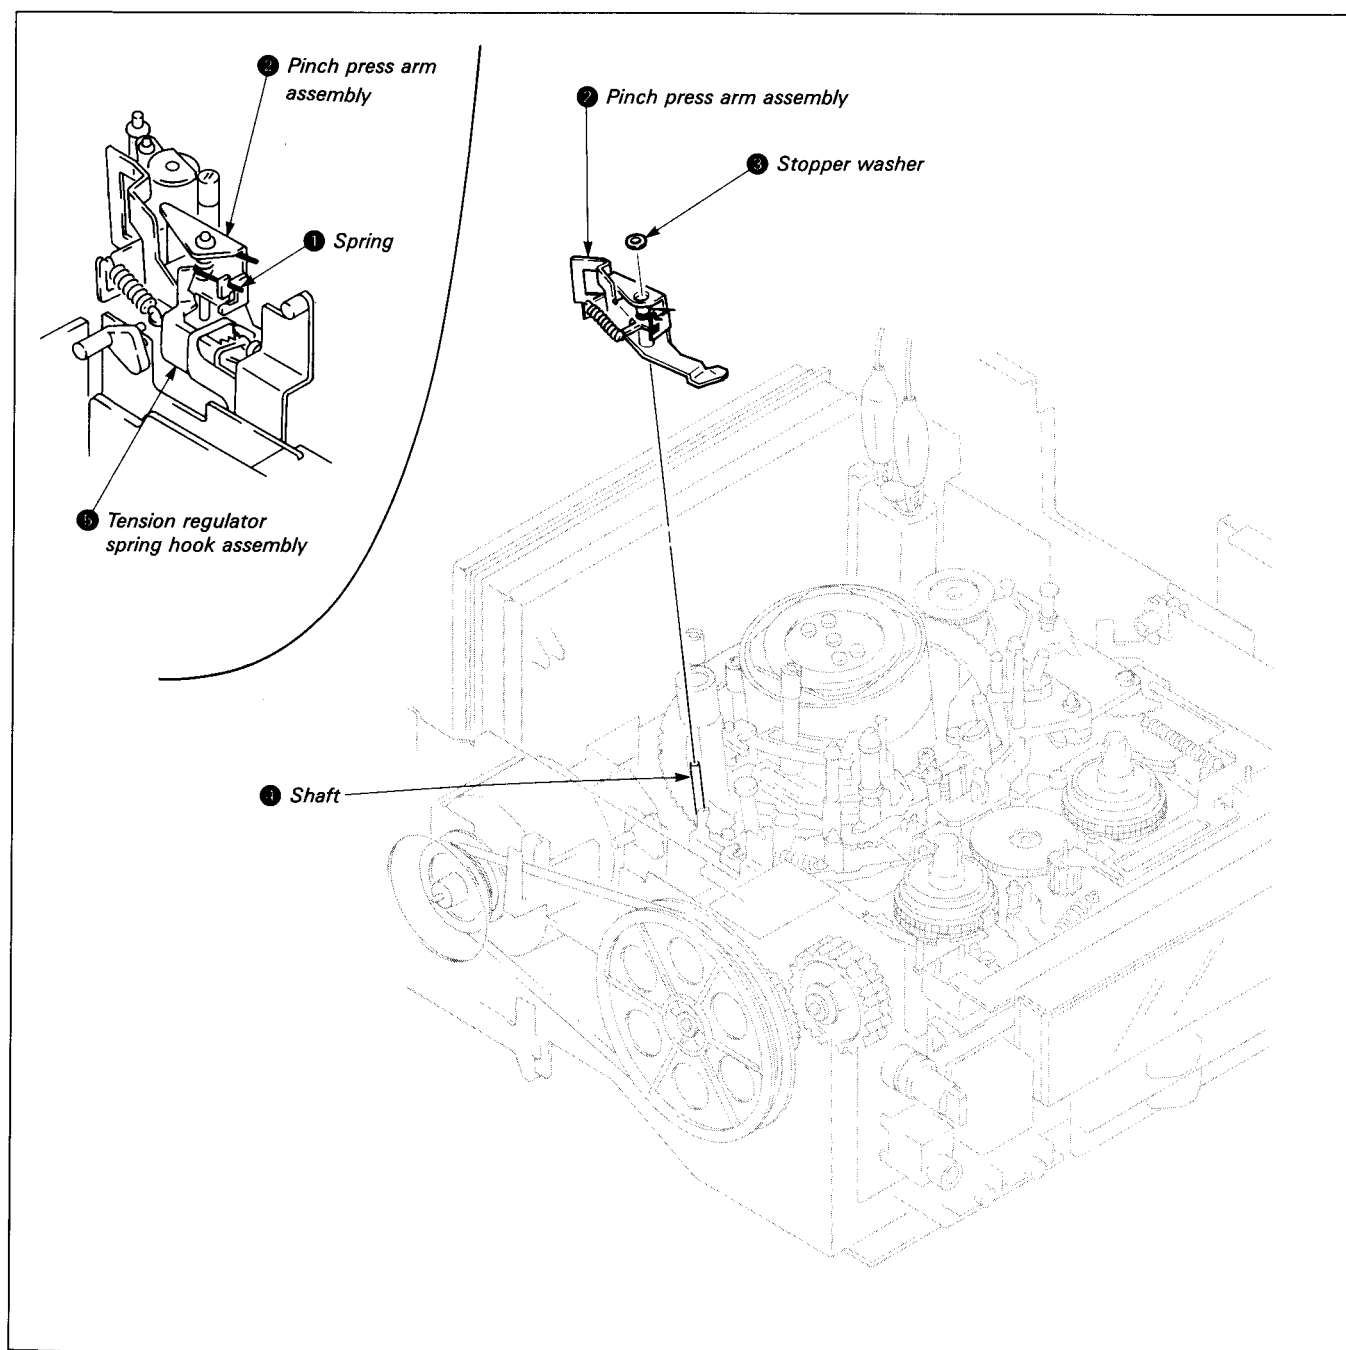

Fig. 7-8.
7-3-3. Pinch Press Arm Assembly (See Fig. 7-8)
- 3) Remove the LS motor belt ①.
- 4) Remove the Four screws ②, and then move the Front base ③ in the direction of arrow.
- 5) Change the spring position as described in 7-3-3. 1. Removal, 2). (See Fig. 7-8.)
- 6) Remove tension spring ④. (Note its position.)
- 7) Remove screw ⑤ and the tension regulator spring hook assembly ⑥.
- 9) Remove the tension regulator band assembly hook ⑦.
- 10) Remove the tension regulator arm assembly ⑧.
- 1) Place a half drop of oil on the spindle ⑨.
- 2) Mount the tension regulator arm assembly ⑧, placing the tension regulator load arm assembly pin ⑩ in the tension regulator arm assembly ⑧ cam groove (on the back).
- 3) Mount the tension regulator band assembly hook ⑦. (Do not touch the band or change its shape.)
- 5) Mount the tension regulator spring hook assembly ⑥ and tighten with screw ⑤.
- 6) Replace tension spring ④ in its original position and lock the screws.
- 7) Position the spring according to item 7-3-3, 2. Mounting, 3). (See Fig. 7-8.)
- 8) Mount the Front base ③, and then tighten with four screws ②.
- 9) Mount the LS motor belt ①.